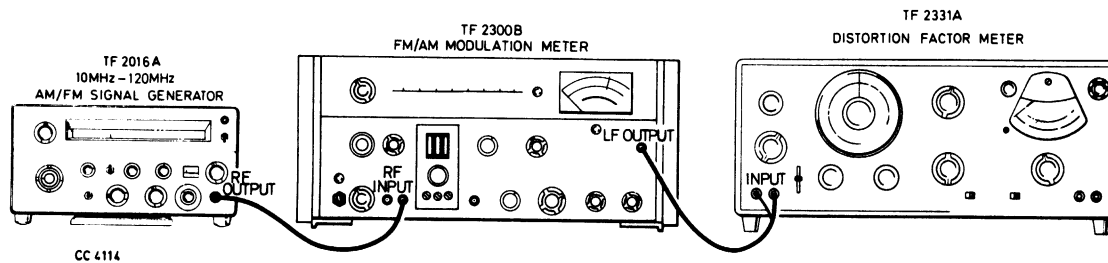

Fig. 3 Checking f.m. and a.m. distortion.
- (1) Set the FUNCTION selector at CW and CARRIER switch at ON then ensure that the pointer of the MOD/CARRIER meter is within the white box.
- (2) Connect the counter to the RF OUTPUT socket on the front panel. Set the CARRIER RANGE selector in turn to ranges 1 to 12 and check, using the TUNE, FINE TUNE and EXTRA FINE TUNE controls, that the scale calibrations at three points on each range, i.e. low and high frequency ends and at a centre frequency, are within \pm 2% of counter indication.
- (3) If necessary, for ranges 1 to 9 inclusive, adjust the appropriate tuning coil core for low frequency correction and the appropriate trimming capacitor for high frequency correction. Since the coil and trimmer capacitor are interdependent ensure that after the second adjustment the first adjustment remains correct.
- (4) For ranges 10 to 12, range 12 should be adjusted first. Coarse adjustment is carried out by repositioning the wire loop (three alternative positions are shown illustrated in Chap. 7, Fig. 3) or if necessary by altering the length of loop. Fine adjustment is carried out by means of a small coil former inside the printed coil L12 and its associated trimming capacitor; then adjust range 11, and then range 10. This is because the coils for ranges 10 to 12 are connected in series.
- (1) Connect the test equipment as shown in Fig. 3.
- (2) Set the FUNCTION selector at CW, the CARRIER switch at ON, the MOD switch at ON and the frequency of TF 2016A at 30 MHz. Then check that the pointer of the MOD/CARRIER meter is within the white box.
- (3) Set the FUNCTION selector at INT AM. Then adjust the SET MOD control to centre the pointer of the MOD/CARRIER meter.
- (4) Set the AM DEPTH control at 30%. Then tune the modulation meter to TF 2016A and check that the distortion indicated on the distortion factor meter is not greater than 1.5%.
- (5) If required, repeat the check using the external a.f. generator for modulation frequencies at 100 Hz and 10 kHz.
- (1) With the test equipment connected as in Fig. 3 repeat para. 24 (2). Then